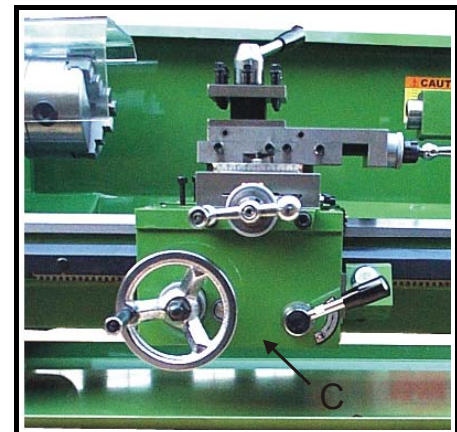

Fig. 13
3. **Apron** – the apron (C, Fig. 13) is mounted to the carriage. Quick travel of the apron is accomplished by means of rack and pinion which is mounted on the bed, operated by a hand wheel on the apron. Automatic longitudinal feed is accomplished via the leadscrew also.